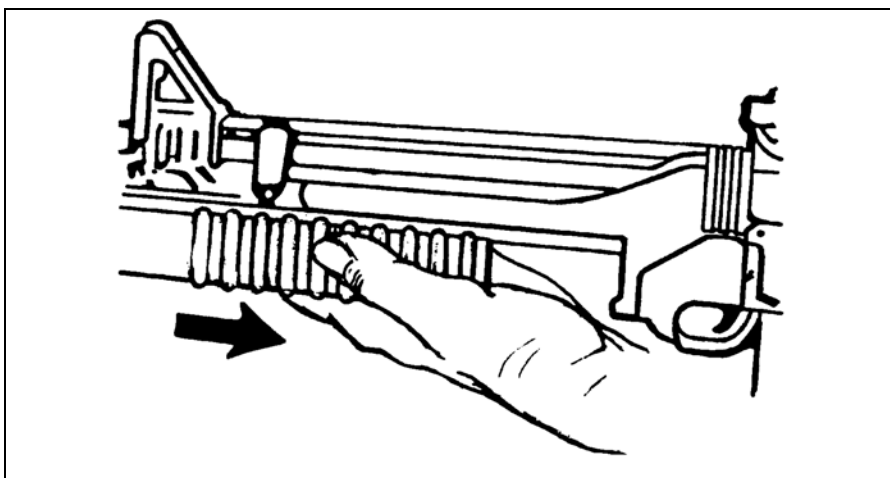

Figure 3-24. Installing and securing the handguard.
- c. Install the handguard and secure it with the slip ring (Figure 3-24).